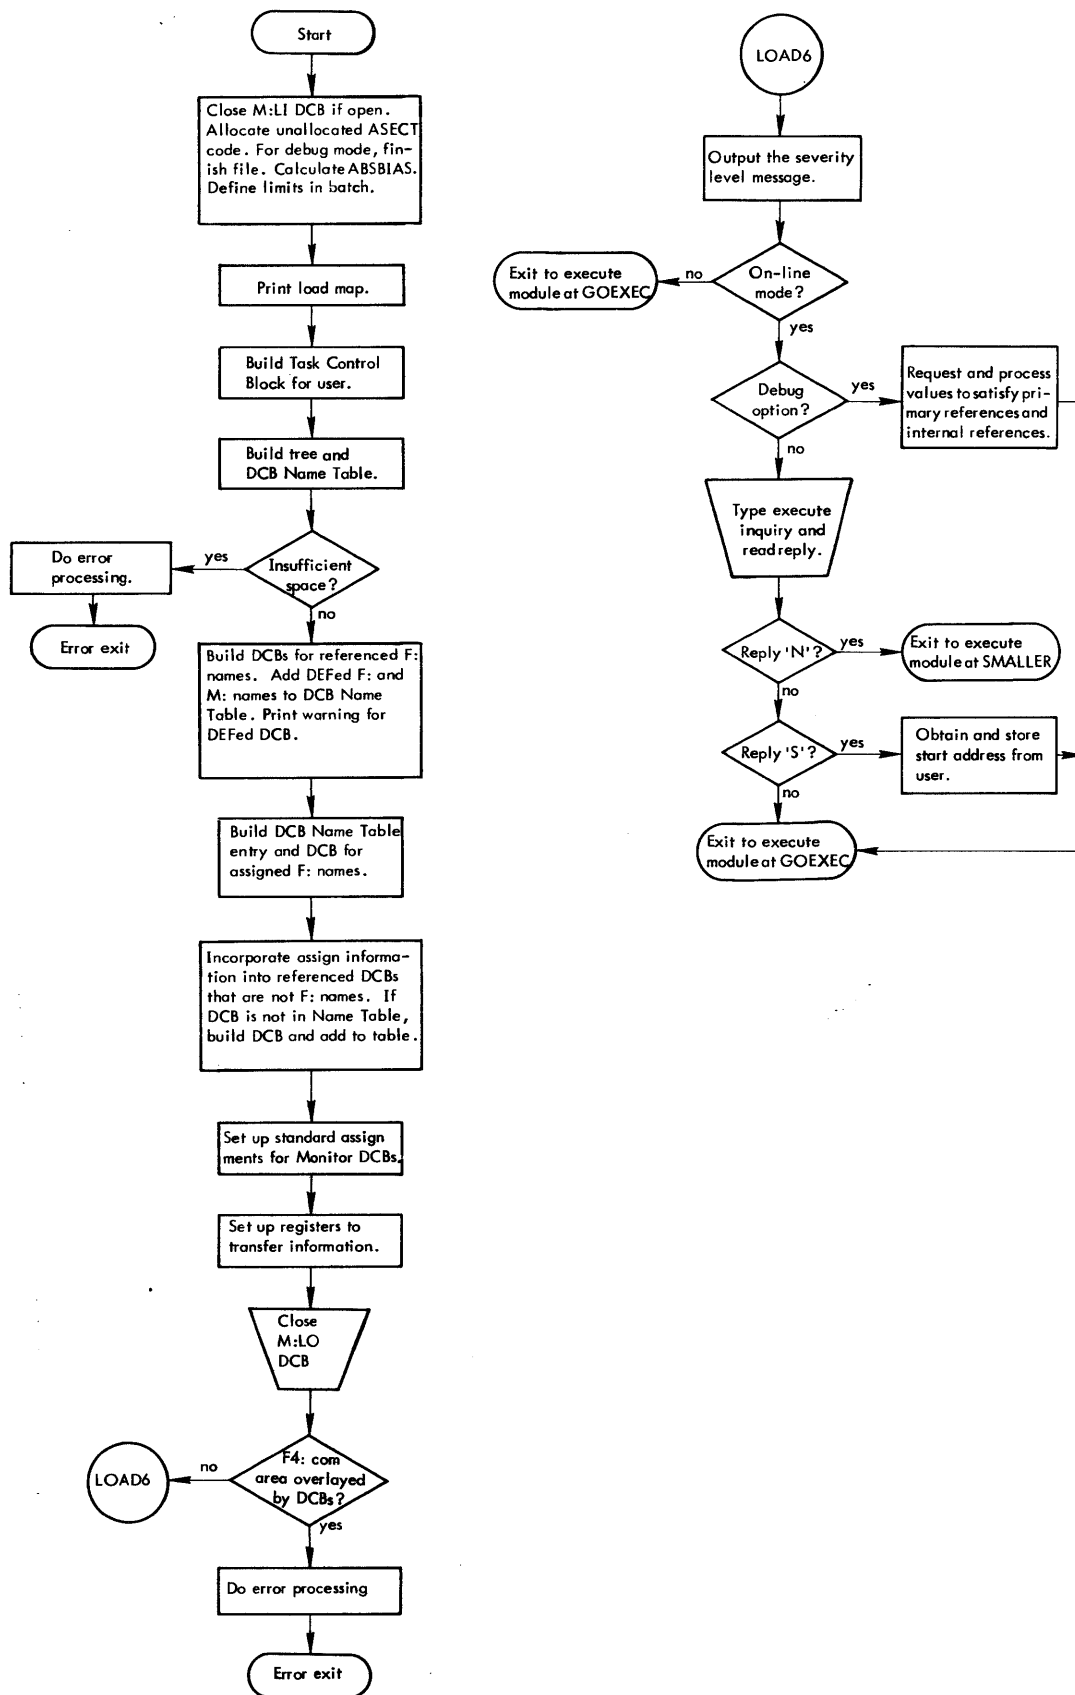

Figure 2-21. Flowchart for Endload Module
- (2) Put the highest severity level encountered into register SR1.
- (3) Put the start address for execution into register SR2.
- (4) Put the bias into register SR3.
- (5) Put the address of the end of the TCB into register SR4.
6. Flowchart. See Figure 2-21.